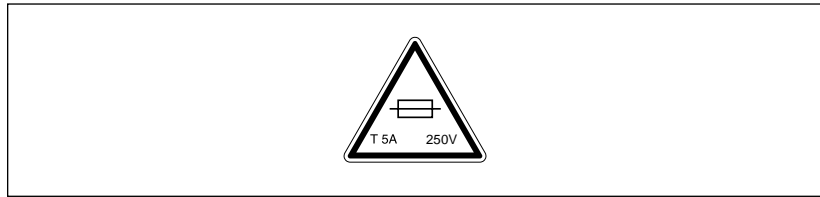

Figure 2-5. The fuse label on the Typhoon instrument.
- **On the Typhoon instrument**—The fuse holder is on the lower right side of the Typhoon instrument and contains two 5A, 250V (⊖, T5A, 250V) slow-acting fuses. The fuse label contains the fuse specifications (figure 2-5). The fuse holder accepts both 0.25-in by 1.25-in English fuses (designated 3AG fuses) and 5-mm by 20-mm metric fuses.